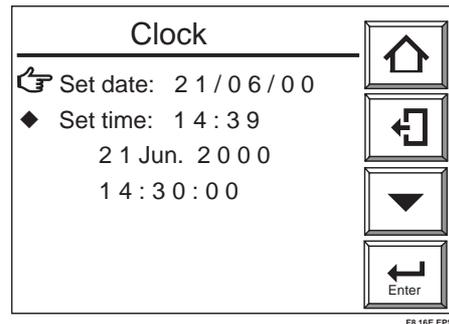

Figure 8.16 Clock Display
- (4) Select Clock. The Clock display then appears, as shown in Figure 8.16.
- (5) Select Set date to display the numeric-data entry display. To set the date June 21, 2000, enter 000621 and press the [Enter] key. The display then returns to the one shown in Figure 8.16.